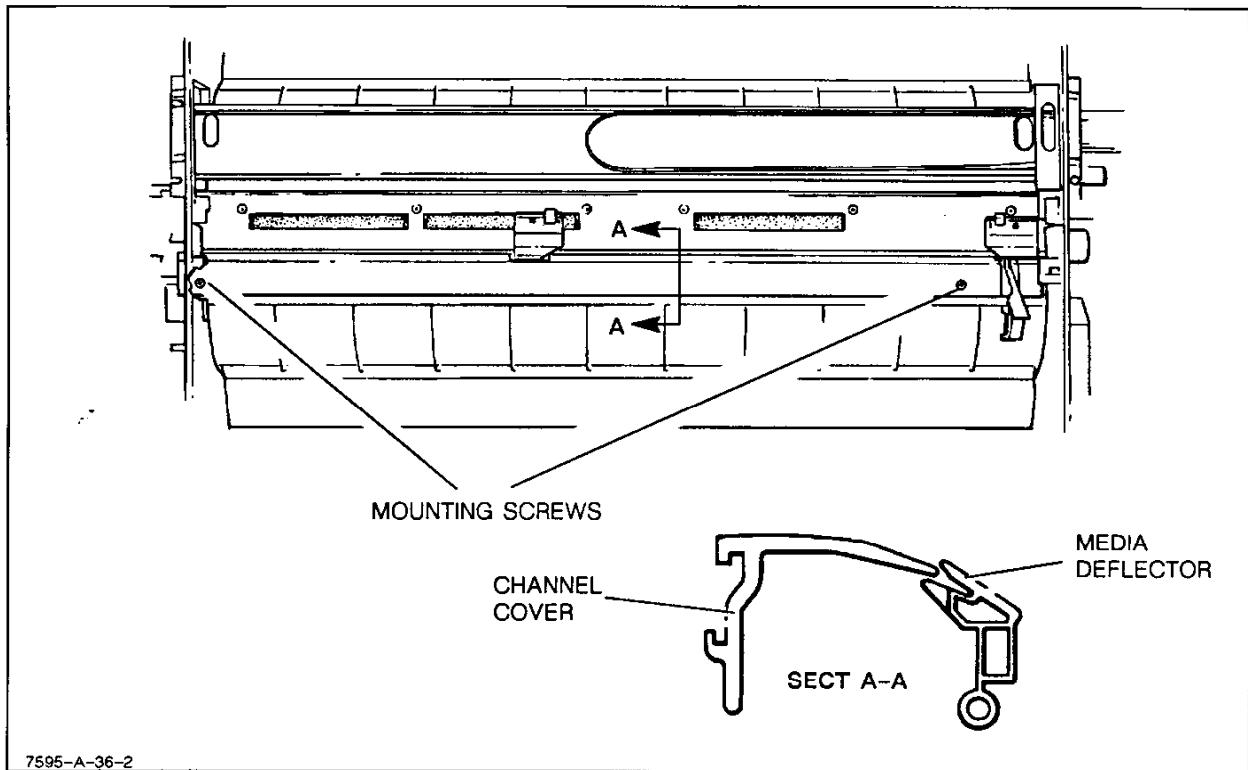

Figure 6-31. Pinch Wheel Channel Cover Removal
- a. Turn the plotter line switch to OFF (O) and disconnect the ac power cord.
- c. Remove the two pinch wheel channel cover mounting screws (Torx #10) and remove the cover. See Figure 6-31.
- f. Install the pinch wheel channel cover. Slide the adjustable pinch wheel to the right, compressing the media deflector. Place the channel cover between the upper and lower tabs of each section of the media deflector. See Figure 6-31.